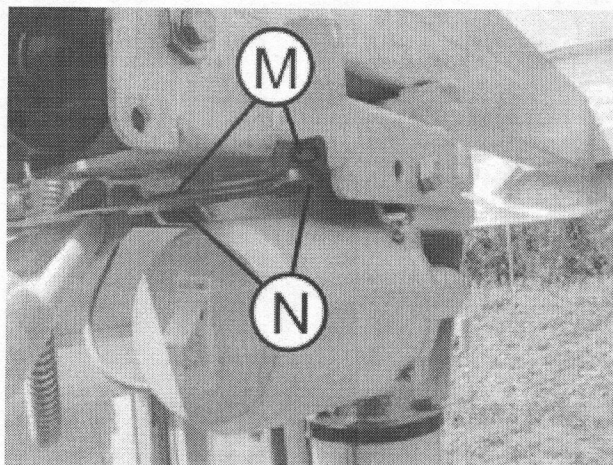

Fig. 034
3. Loosen both counter nuts (L) and set the inclination of the relevant side brush with the screws (N) in such a way that the brush hangs downward straight (Fig. 034 + 035).
4. Tighten counter nuts (M) (Fig. 034).